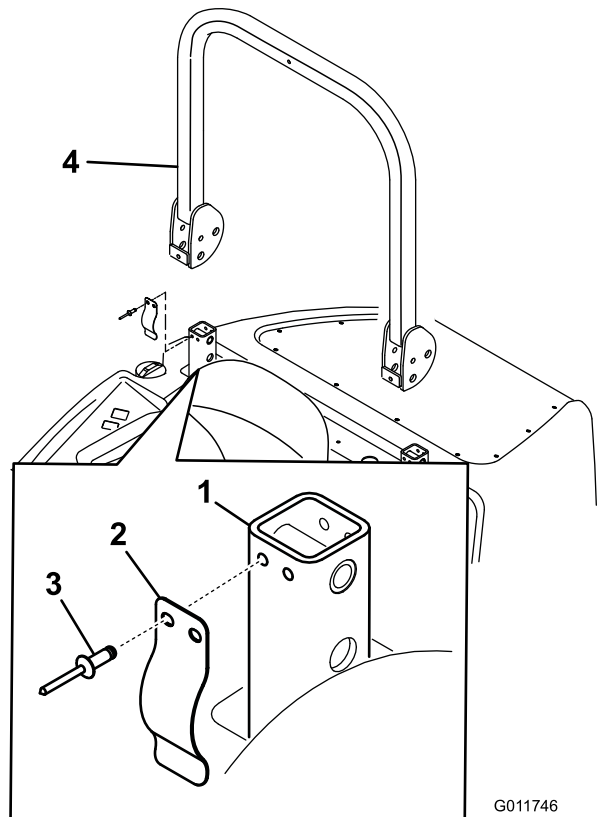

Figure 1
1. Rivet a leaf spring onto the front of each ROPS post (Figure 1).
2. Lower the ROPS assembly onto the ROPS posts, positioning as shown in Figure 1.